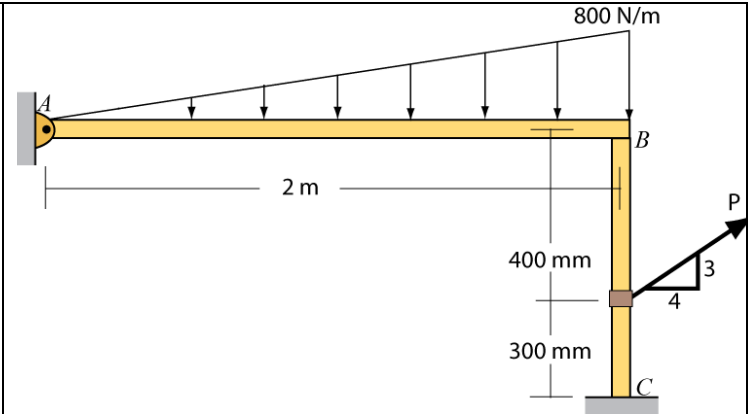

Figure 3
The horizontal beam AB in Figure 3 has a negligible mass and thickness and is subjected to a triangular distributed loading with maximum magnitude of 800 N/m. Beam AB is supported at A by a pin, and at B by a vertical friction-post having a mass of 50 kg and negligible thickness. A force (P) is applied to the post such that when it reaches a magnitude of 150 N, the post slips at both B and C simultaneously.